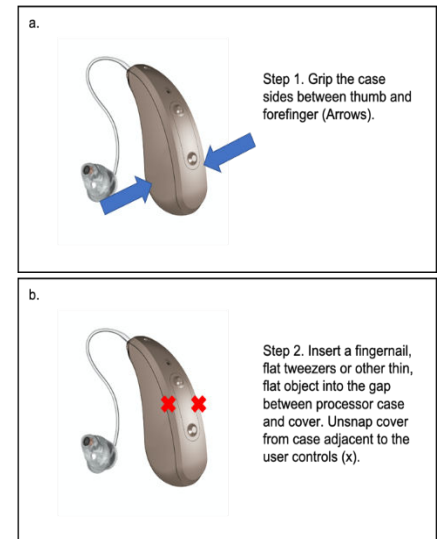

Figure 44: Processor case cover removal
4. The Apple device will start searching for your hearing aids (Figure 44).